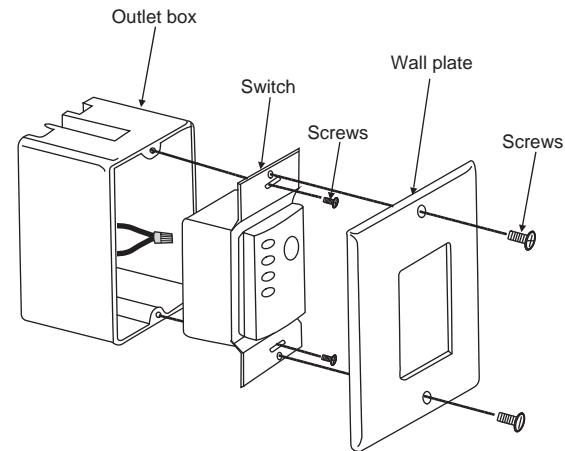

Fig. 20
Step 2. Install the wall plate on the existing wall outlet box using the screws provided. (Fig. 20)